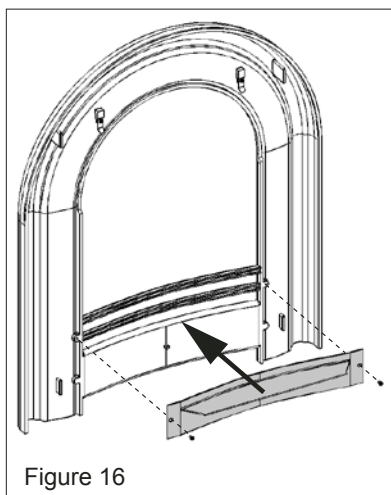

Figure 16
4. On the rear face of the arch, below the opening, install the infill panel provided with the front—see figure 16.